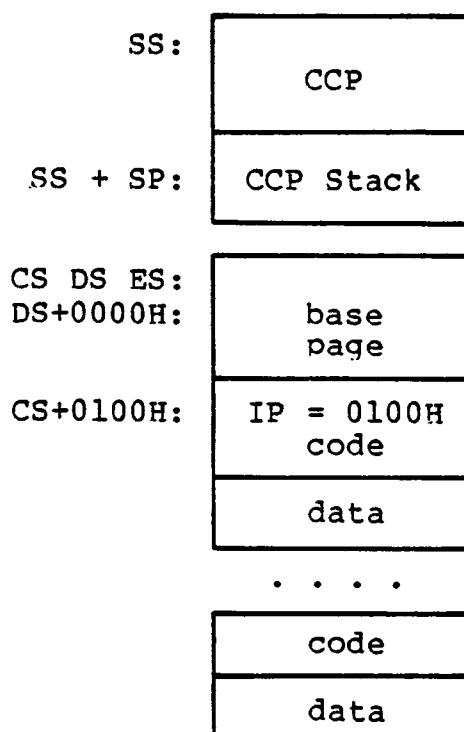

Figure 2-1. CP/M-86 8080 Memory Model
The 8080 Model is assumed when the transient program contains only a code group. In this case, the CS, DS, and ES registers are initialized to the beginning of the code group, while the SS and SP registers remain set to a 96-byte stack area in the CCP. The Instruction Pointer Register (IP) is set to 100H, similar to CP/M-80, thus allowing base page values at the beginning of the code group. Following program load, the 8080 Model appears as shown in Figure 2-1, where low addresses are shown at the top of the diagram: